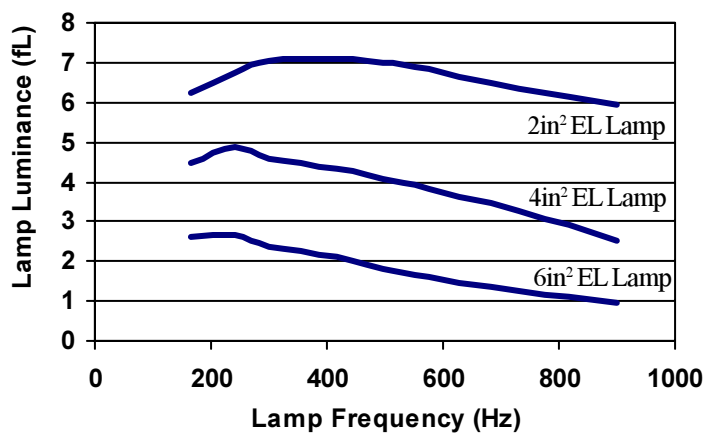

Figure 2: Typical Lamp Luminance vs. Lamp Frequency
The selection of the CLF value can also affect the brightness of the EL lamp because of its control of the lamp frequency (LF). Although input voltage and lamp size can change EL lamp frequency as well, LF mainly depends on the CLF value selected or the frequency of the input clock signal to CLF. The luminance of various sizes of Durel 3 Blue-green EL lamp driven by a D356A at  $V^+ = 3.0V$  using the same inductor value is shown in Figure 2 with respect to lamp frequency.